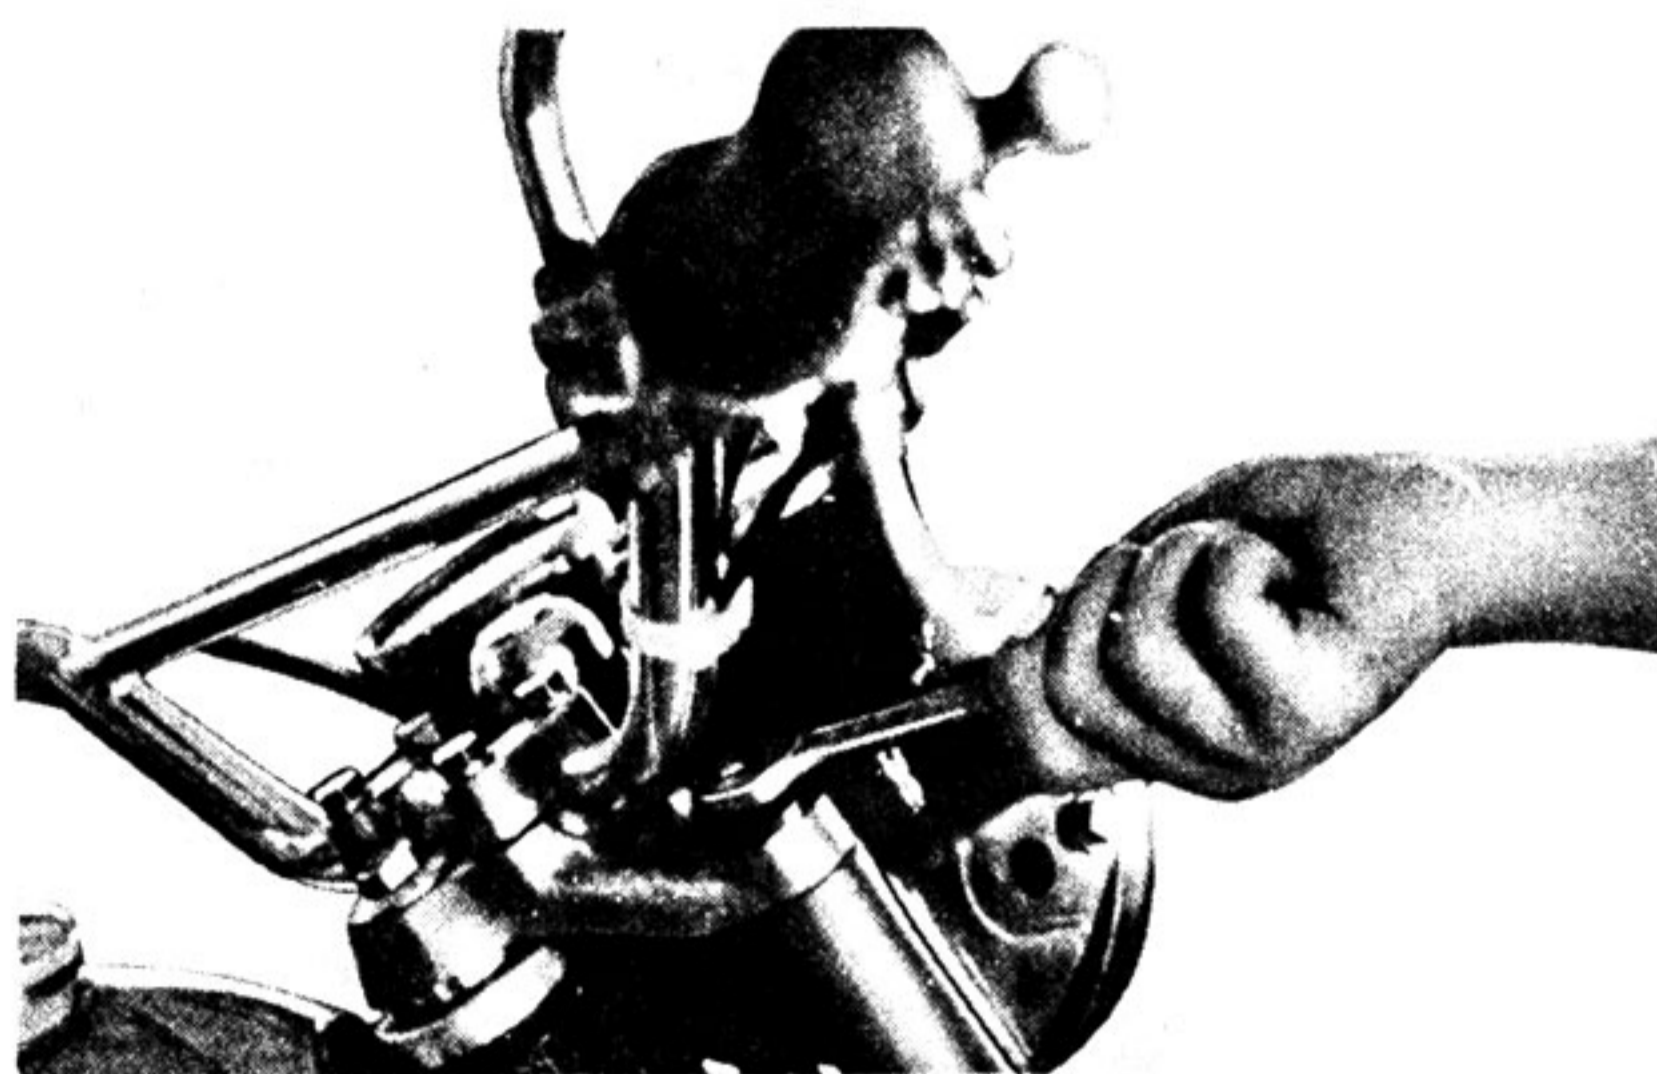

Fig. 5-7-9
- c. Install the inner tube cap bolt, and tighten it. (Fig. 5-7-9)